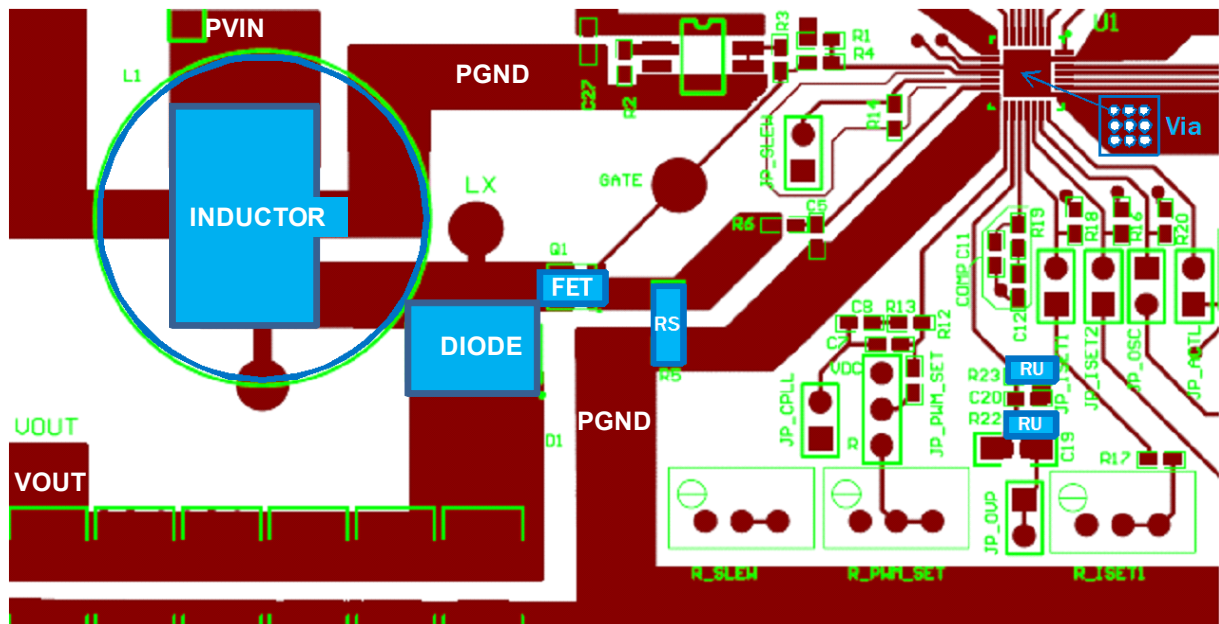

FIGURE 29. EXAMPLE OF TWO LAYER PCB LAYOUT
2. All ground pads for input caps, current sensor, output caps should be close to the PGND pin adjacent to the CS pin of ISL97687 with wide metal connection shown in the Figure 29. This guarantees a low differential voltage between these critical points.